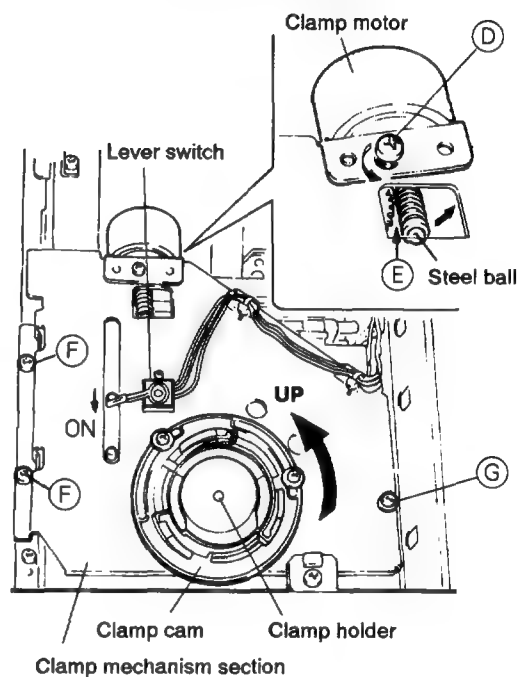

Fig. 3
### Note 1 : How to open the tray manually (Fig. 3)
### • Disassembling the Tray Section (Fig. 3 and 4)
2. Remove the two screws (F) and a screw (G) fixing the clamp mechanism section and remove by turning over the clamp mechanism section. (Fig. 3)